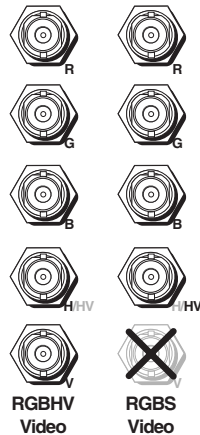

Figure 2-6 — BNC output connections for RGBHV and RGBS video
- ④ **Video output BNC connectors**— Connect RGB video displays to these two sets of female BNC connectors. Figure 2-6 shows how to connect the various video formats.